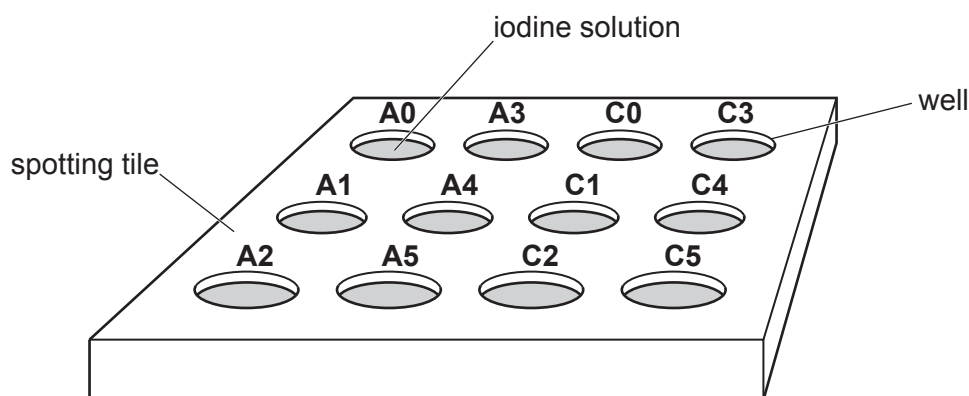

Fig. 1.1
- Step 1** adds 2 drops of iodine solution to 12 labelled wells on a spotting tile, as shown in Fig. 1.1